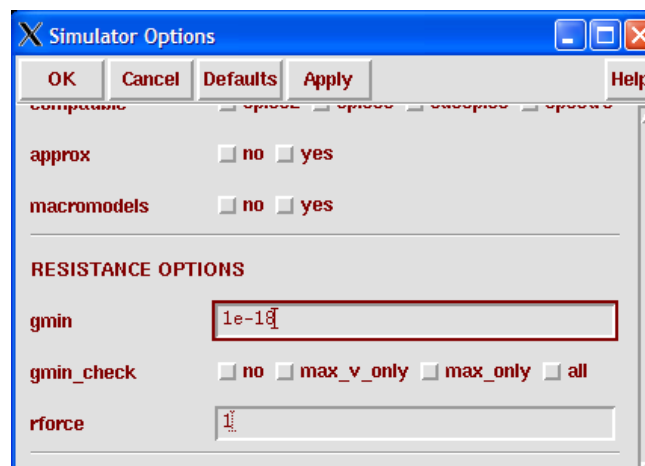

Figure 7: Simulator Options Window, after modifying “gmin”
3. In ADE, select **Simulation** → **Options** → **Analog...** . Under Resistance Options, enter a “gmin” value of $1e-18$ (see **Figure 7**). The specific value of gmin is not important here; however, if it is not chosen to be small enough or left at default, measurements of small currents (such as in static power measurement) will be very inaccurate.